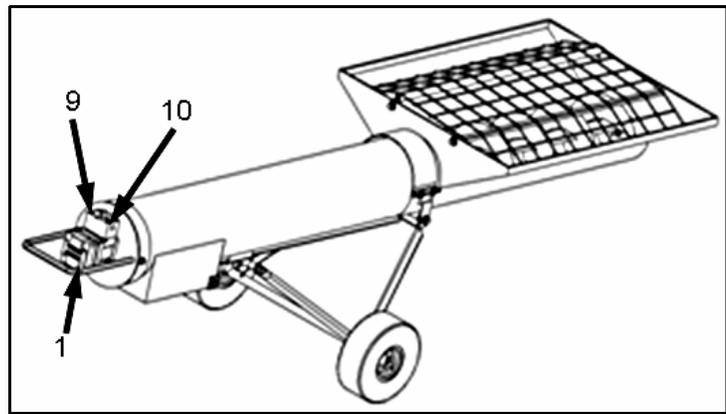

Figure 3.6
2. Install a control valve (9) onto the hydraulic motor using the 5/16" Allen head bolts (10). Install hydraulic fittings into the control valve (see Figure 3.6).
2. Install a control valve (9) onto the hydraulic motor using the 5/16" Allen head bolts (10). Install hydraulic fittings into the control valve (see Figure 3.6). Connect upper end of tube support (25) to tube (24) with two 3/8" x 1-1/4" bolts (29), 3/8" flat washers (31), and 3/8" locknuts (30). Refer to Figure 3.6.
3. Connect lower end of tube support (25) to tube (24) with tube clamp (26), bolts (27), and locknuts (28).
4. Attach upper (33) and lower (32) support tubes to axle (34) by sliding over axle shaft.
5. Mount tire and rim (35) on axle (34) and secure with cotter pin (37) and 3/4" flat washer (36).
6. Install upper support tubes (33) to tube support (25) with a 1/2" x 6" bolt (38), 1/2" flat washer (40), and 1/2" locknut (39).
7. Install lower support tube (32) to tube support (25) with two 3/8" x 1-1/4" bolts (41), 3/8" flat washers (43), and 3/8" locknuts (42).